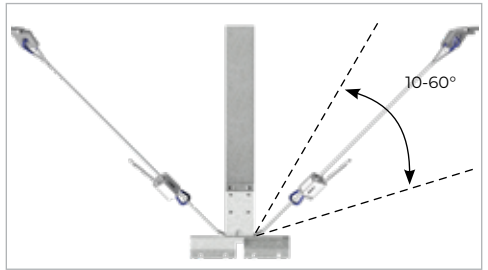

Figure 2
- Seismic wires should be set between 10 and 60 degrees, see Figure 2 on page 17.